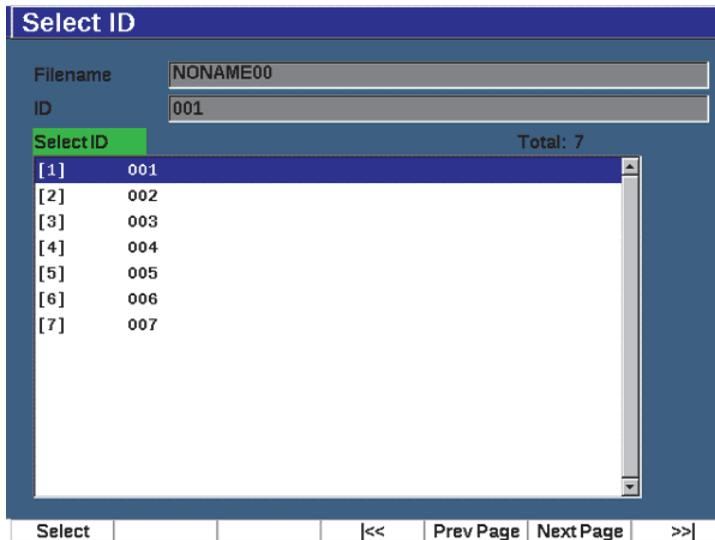

Figure 10-11 Select ID page
3. Press **Select ID** (P2 key) to display the **Select ID** page (see Figure 10-11 on page 202).